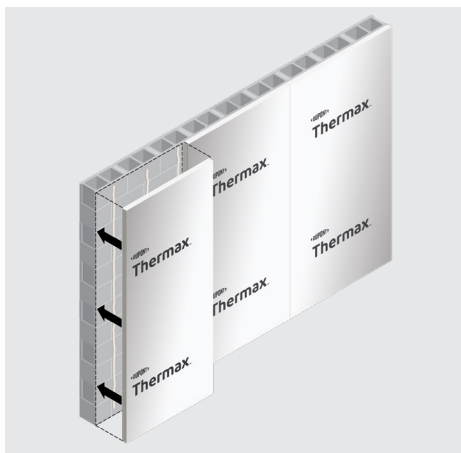

Figure 8
5. Press insulation boards firmly into position between the PVC base strips (Figure 8).